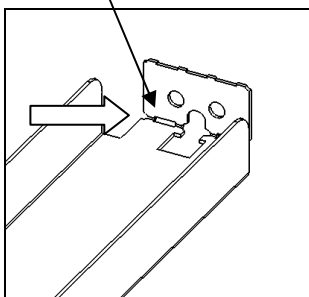

Figure 2
2. Form tab up 90 degrees (See Fig. 2)